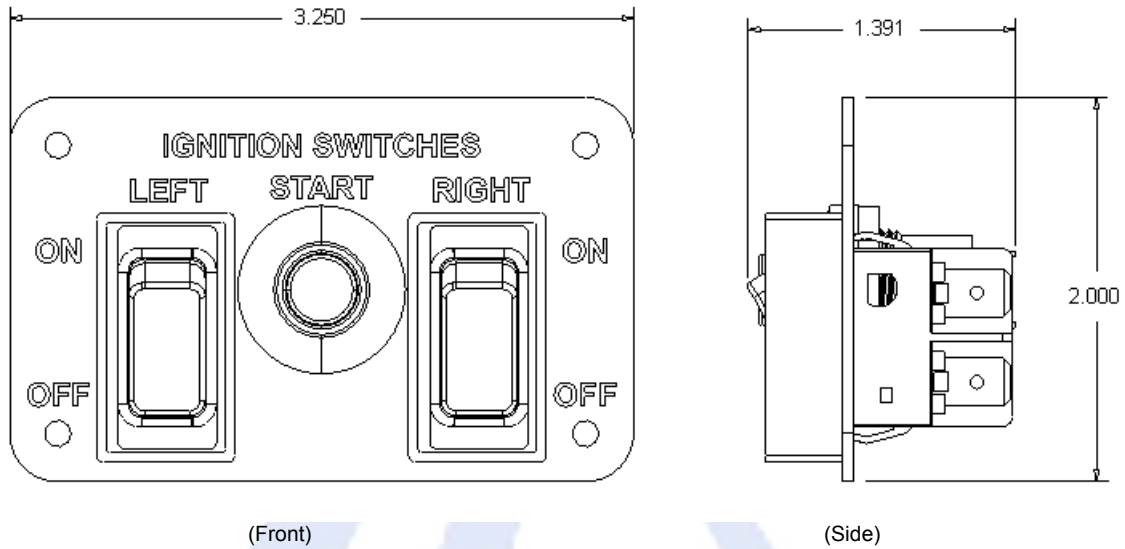
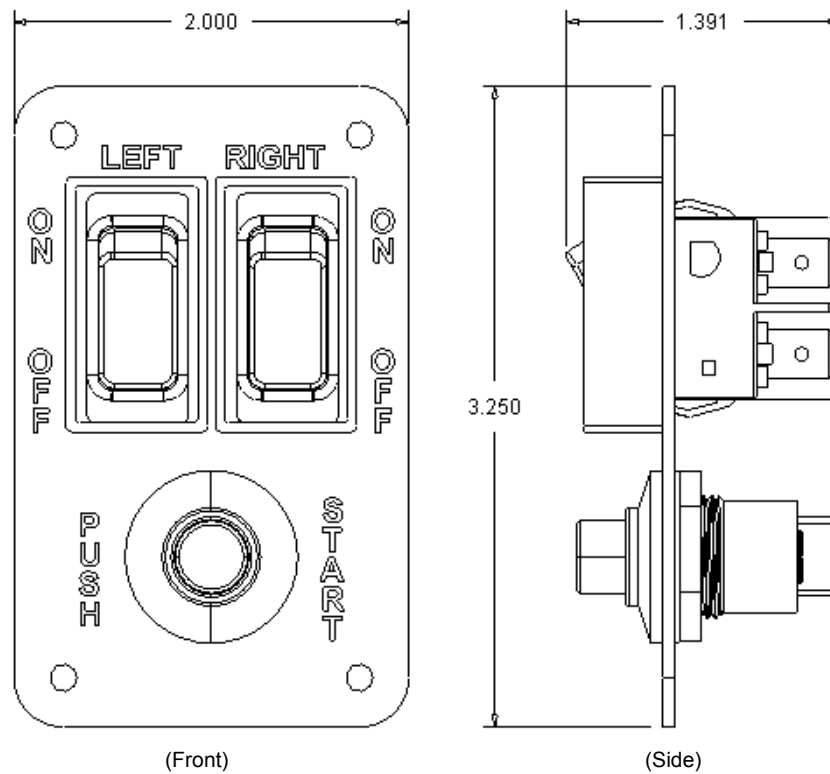
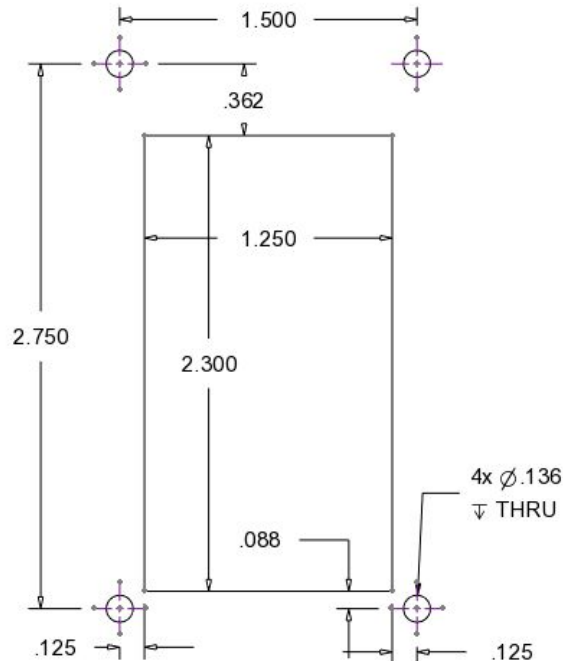

Figure 1: Configuration A Overall Dimensions
Figure 2: Configuration B Overall Dimensions
Figure 4: Configuration B Cutout Dimensions
- Overall dimensions are provided in Figure 1 and Figure 2. Cutout dimensions are provided in Figure 3 and Figure 4. All dimensions are in inches.